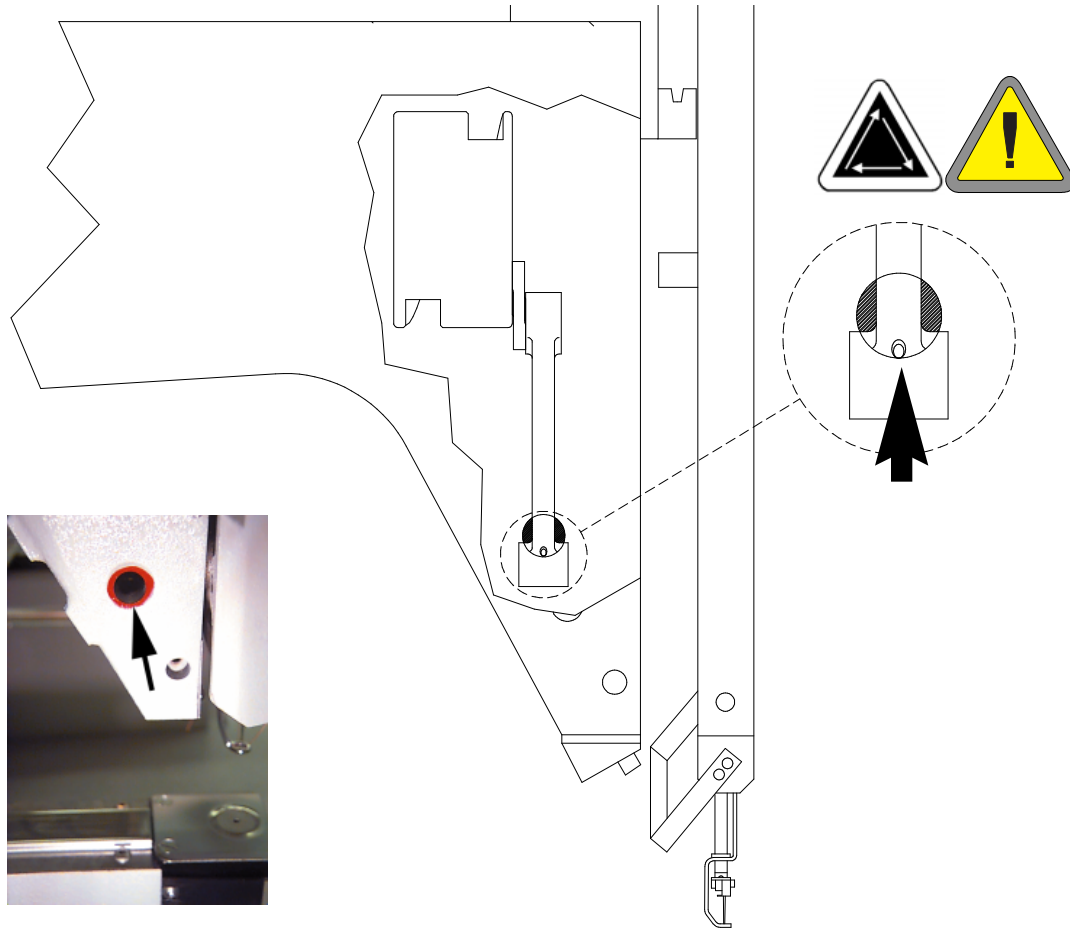

Figure 4-10
3. When **lower connecting rod** displays, press . This moves the z axis to its proper position for oiling (150°). Place 2-3 drops of oil in the location shown in Figure 4-10. Use a flashlight if needed. Press  when done.